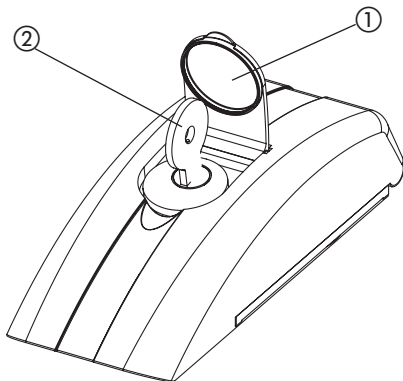
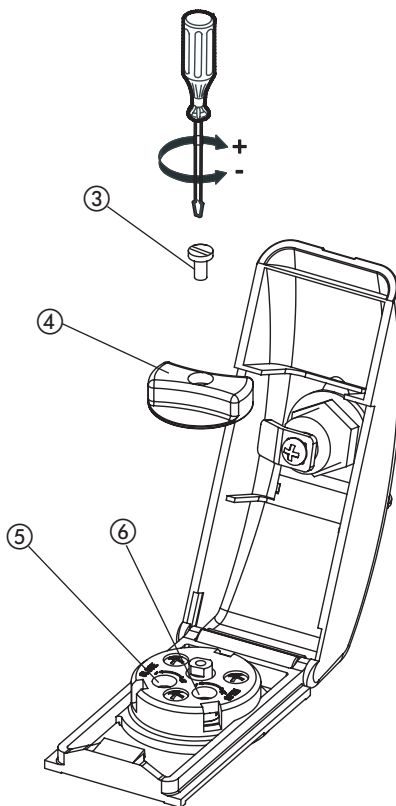

Fig. 14
Fig. 15
Lift the protective plug (Fig. 14, ref ①) and insert the supplied key (Fig. 14, ref ②). Turn it 90° clockwise to unlock the cover.
Lift up the cover (Fig. 15)
Unscrew the screw that secures the knob (Fig. 15, ref ③), and pull out the knob (Fig. 14, ref ④).
Turn the pressure adjustment screws (By-Pass) (Fig. 15, ref ⑤ and ⑥) on the operator.
When the adjustment is complete, re-position the knob (Fig. 15, ref ④) and tight the screw (Fig. 15, ref ③).